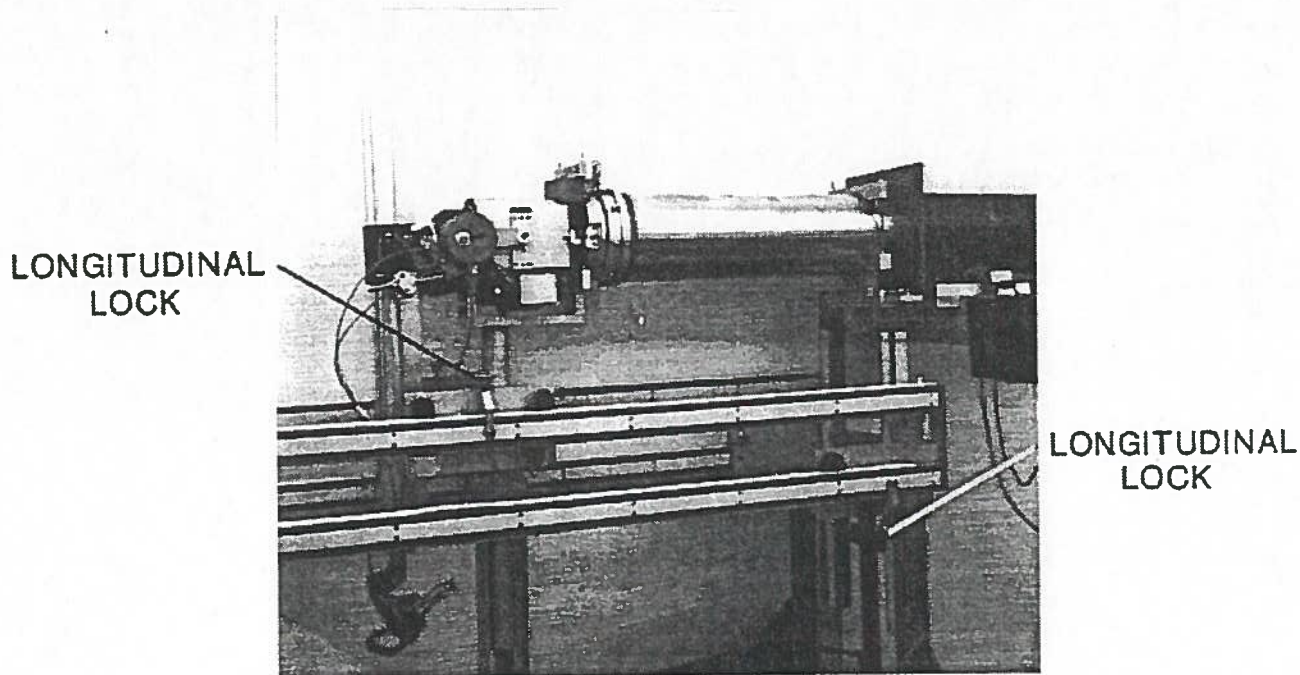

FIG. 16
8. Release the longitudinal locks on both master and slave jacks and roll the manipulator and jack assemblies toward the wall as far as possible (Fig. 16). The slave jack should reach the end of its longitudinal travel. Lock the longitudinal locks on both master and slave jack assemblies.